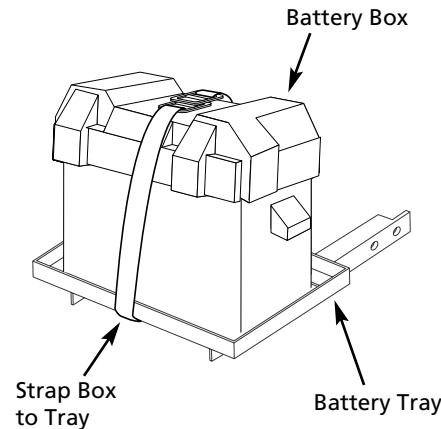

Figure 3 - Secure Box
4. Put lid on battery box and secure with strap. Ensure strap fastens box tightly to tray (See Figure 3).